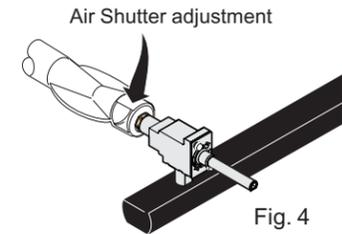

Fig. 4
- The air shutter adjustment for each of the 4 surface burners is located at the open end of the venturi tube near the valve gas orifice (See Fig. 4). Should the air shutter need adjustment, rotate the air shutter to allow more or less air into the burner tube. If the air is properly adjusted, the flame will be steady, relatively quiet, and have approximately 1/2" sharp blue cone (usually the center of air shutter's adjustment). If the flame is yellow in color, increase air shutter opening size. If the flame is a distinct blue but lifting away from the burner, reduce the air shutter opening size.